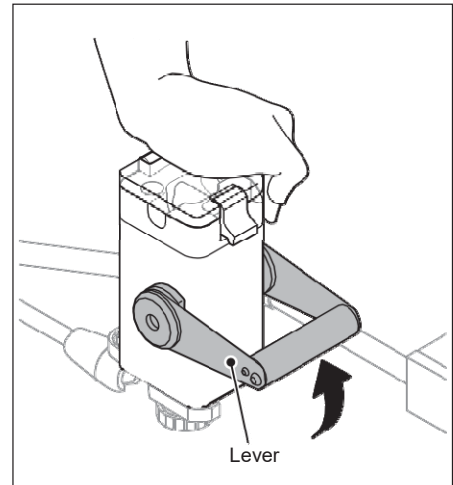

Figure 1-58
3. While holding the lid of the Fast Clamp, pull up the lever until you hear a click. (Figure 1-58)